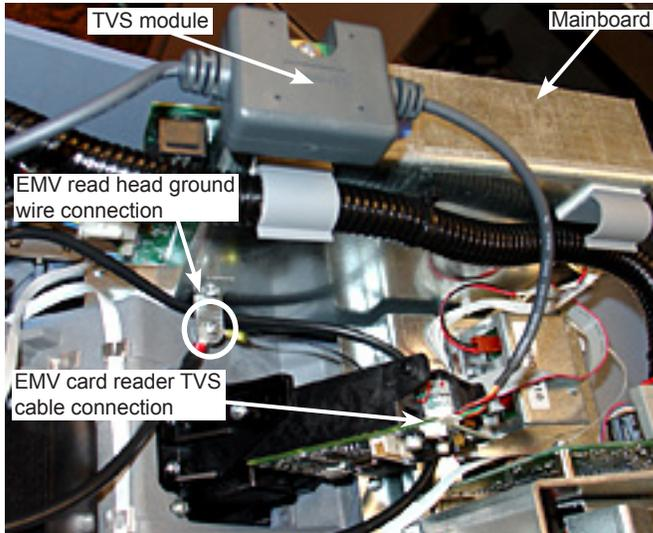

Figure 1. EMV card reader communication and read head ground cable connections
1. Refer to Figure 1. Disconnect the TVS cable from the EMV dip card reader.
2. Refer to Figure 1. Remove the mainboard mounting screw that secures the EMV read head ground wire at the L-shaped bracket on the side of the mainboard metal casing.